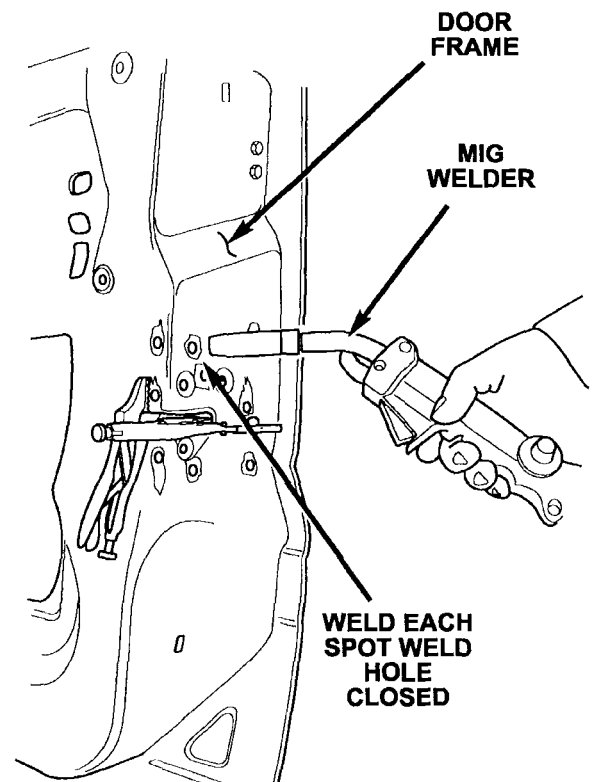

Figure 6
19. Using a MIG welder, weld the holes closed (Figure 6). Refer to the "Welding Specifications" chart at the end of this procedure for welder setup specifications..